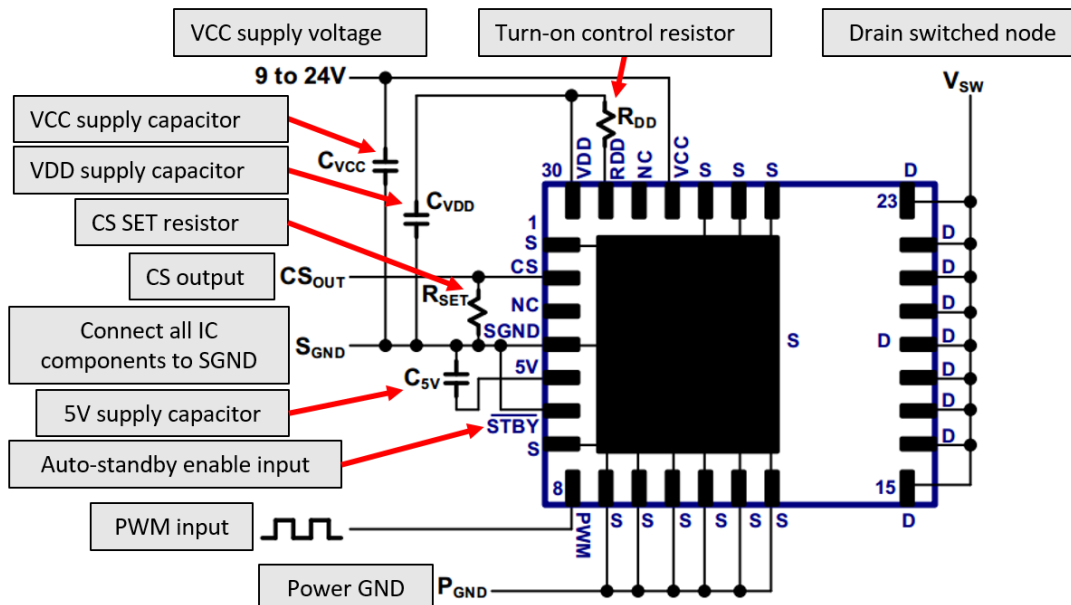
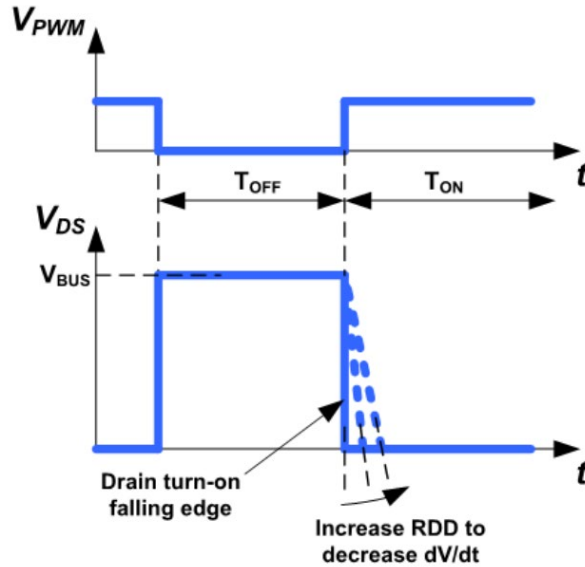
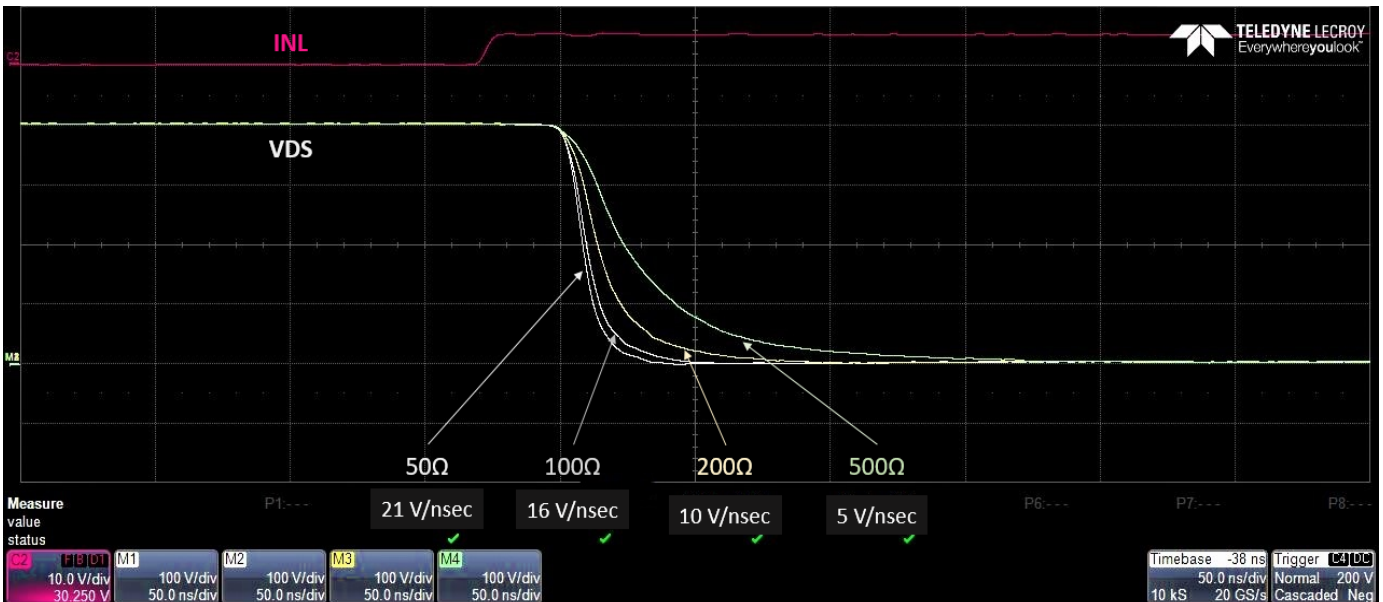

Fig 2. GaN IC connection diagram
Fig 11. Turn-on dV/dt slew rate control simplified timing diagram
Fig 12. V_{DS} turn-on slew rate (dV/dt) waveforms for different R_{DD} values (NV6136A, 90%-10%)
The typical connection diagram for this GaN IC is shown in Fig. 2. The IC pins include drain of the GaN IC (D), source of the GaN IC (S), IC supply (V_{CC}), gate drive supply (V_{DD}), gate drive turn-on control SET input (R_{DD}), PWM input (PWM), separate signal GND (S_{GND}), current sensing output (CS), auto-standby mode input (\overline{STBY}) and 5V supply (5V). The Source pad and Source pins (S) should all be connected to the system P_{GND} . S_{GND} pin 4 must be connected directly to Source PAD underneath IC. The Source pins (S) should each be connected externally to the Source pad directly underneath the IC. The Drain Pins (D) should all be connected together in the layout (see Section 9). The external components around the IC include V_{CC} filter capacitor (C_{VCC}) connected between V_{CC} pin and S_{GND} pin, V_{DD} filter capacitor (C_{VDD}) connected between V_{DD} pin and S_{GND} pin, turn-on dV/dt set resistor (R_{DD}) connected between V_{DD} pin and R_{DD} pin, current-sense amplitude-set resistor (R_{SET}) connected between CS pin and S_{GND} , and auto-standby mode pin (\overline{STBY}) connected to S_{GND} . An external capacitor (C_{5V} , 0.01 μ F max) is required between pin 5V and S_{GND} . This 5V pin is for internal purposes only and must not be used for biasing external circuitry. The table below (Table I) shows the recommended component values (typical only) for the external components connected to the pins of this GaN IC. These components should be placed as close as possible to the IC.
During first start-up pulses or during hard-switching conditions, it is desirable to limit the slew rate (dV/dt) of the drain of the GaN IC during turn-on. This is necessary to reduce EMI or reduce circuit switching noise. To program the turn-on dV/dt rate of the GaN IC, a resistor (R_{DD}) is placed between the V_{DD} pin 30 and the R_{DD} pin 29 (see Fig. 2). This resistor (R_{DD}) sets the turn-on current of the internal gate driver and therefore sets the turn-on falling edge dV/dt rate of the drain of the power FET (Fig. 11). The actual V_{DS} waveforms for different R_{DD} values are also shown (Fig. 12).